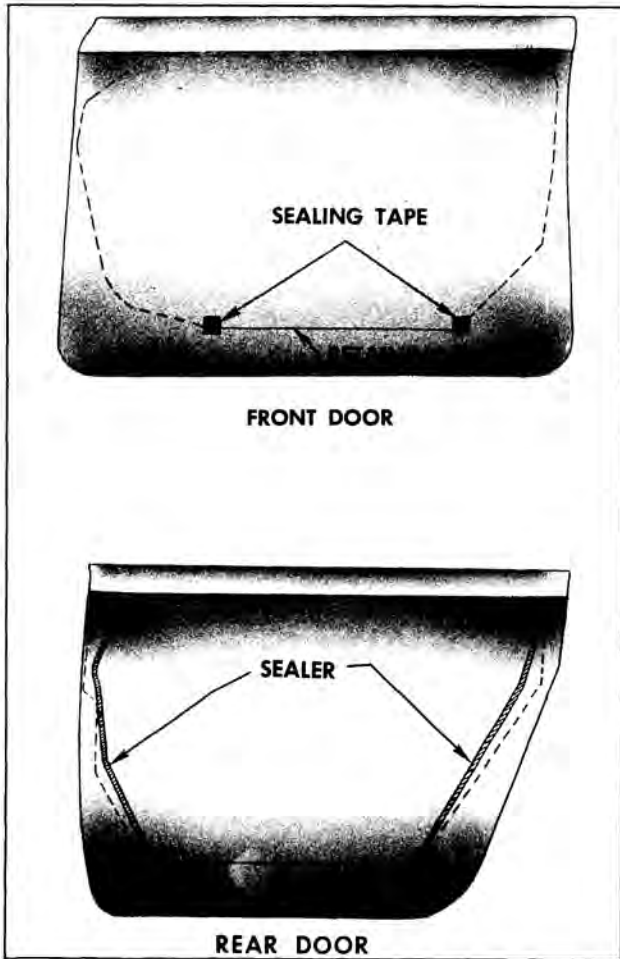

Fig. 16-322 Door Water Deflectors
5. Disengage lower edge of water deflector from retaining slot in door inner panel and remove water deflector. (Fig. 16-322)